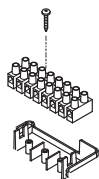

Fig. 8
4. Engage the M2 low voltage 8 way terminal strip over the vertical flanges and secure with the screw supplied (Fig. 8).